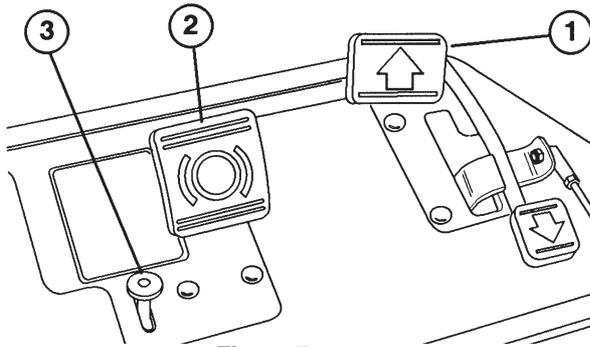
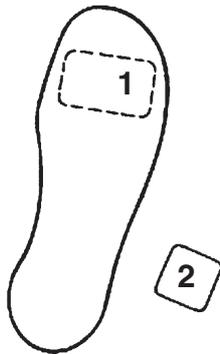

Figure 7
Figure 8
**Traction Pedal** (Fig. 7)—The traction pedal has three functions: 1) to make the machine move forward, 2) to move it backward and 3) to stop the machine. Depress the top of the pedal to move forward and the bottom of the pedal to move backward or to assist in stopping when moving forward. Also, allow the pedal to move to the neutral position to stop the machine. Do not rest your heel of foot on reverse, when operating forward (Fig. 8).
**Brake Pedal** (Fig. 7)—The brake pedal actuates an automotive drum-type mechanical brake located at each traction wheel.
**Parking Brake Button** (Fig. 7)—Depressing the brake pedal to actuate the brake assembly, then depressing the small button indicated will keep the brakes actuated for parking. Disengage the parking brake by depressing the brake pedal. Form the habit of locking the parking brake before you leave the machine.